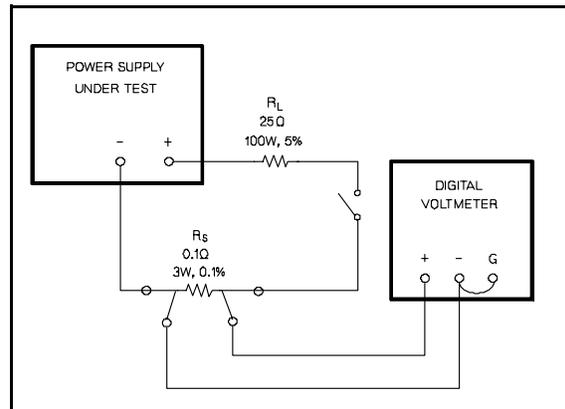

Figure A-6. Output Current, Test Set Up
- f. Connect the test setup shown Figure A-6 to the V1 supply's + and - output terminals.
- l. Connect the test setup shown in Figure A-6 to the V1 supply's + and - output terminals. Substitute a short for R_L and leave the load switch open.